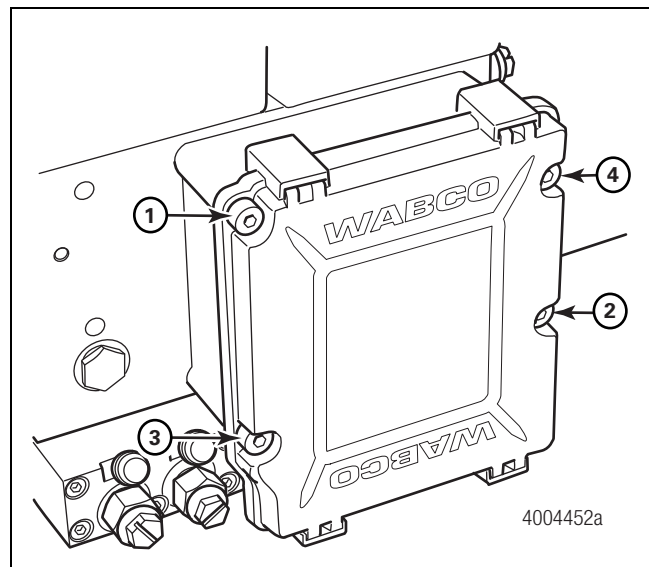

Figure 4.23
3. Use a 4 mm Allen wrench to tighten the four mounting screws that attach the ECU to the HCU. Tighten to 14 in-lb (1.5 N•m). Do not exceed this torque. The metal sleeves on the ECU housing must rest flat on the body of the HCU. Tighten the screws using the correct sequence. Figure 4.23. ①